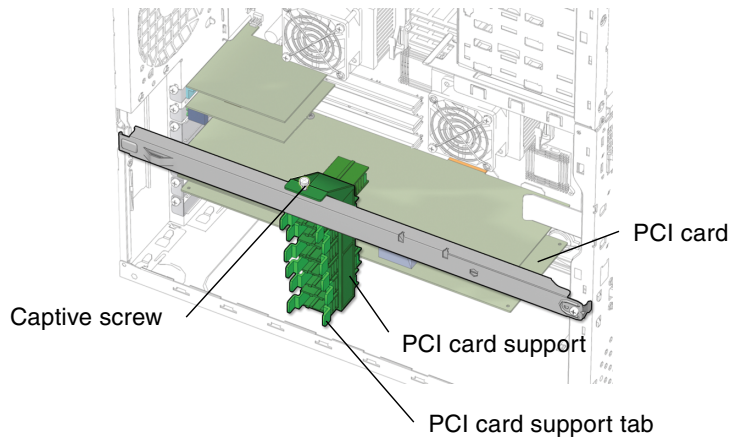

FIGURE 13-44 Releasing the PCI Card Tabs
3. Release the PCI card support fingers (FIGURE 13-44).
4. Loosen the PCI card support (FIGURE 13-44).